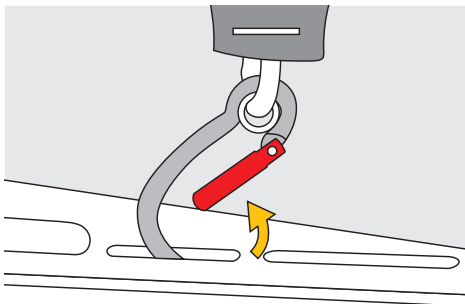
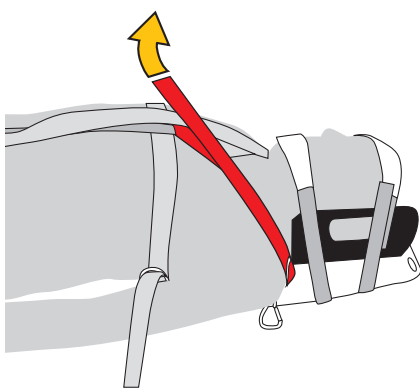

Fig.9
Fig.11
c) fasten the red straps (shoulders and torso) by hooking the connectors to the slots on the board, as shown in Figures 9 and 10, and tighten them slightly by using the buckles (Figures 11 and 12),